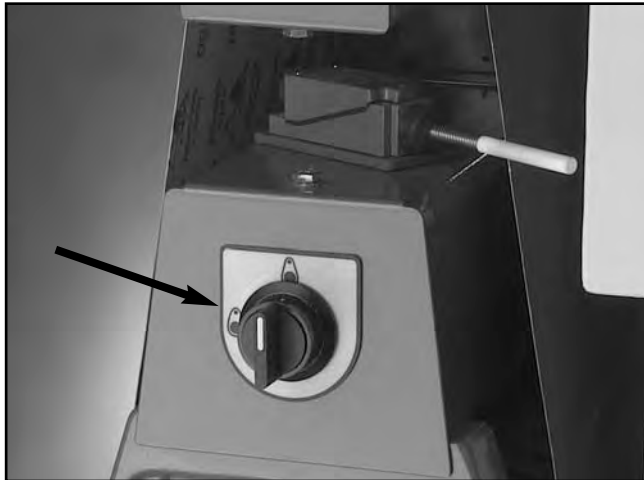

Figure 9. Roller tension switch.
2. De-activate the belt tension by using the belt tension switch (**Figure 9**).